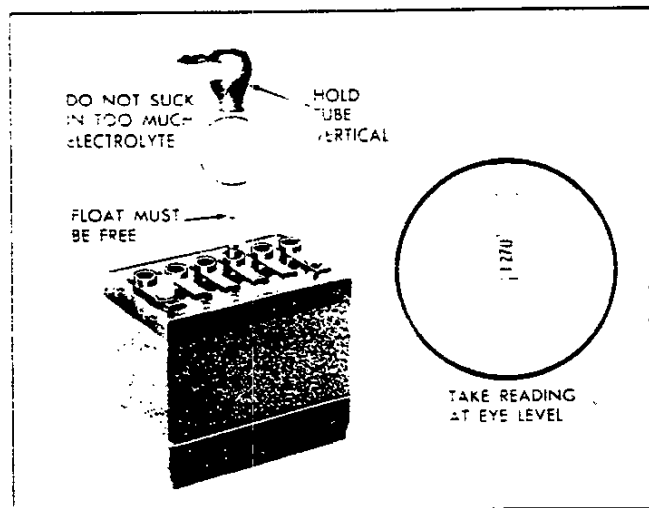

Fig. 4—Testing Specific Gravity of Battery
1. Measure the specific gravity of the electrolyte in each cell (fig. 4). If it is below 1.230 (corrected to 80°F.) recharge with a slow rate charger, or if desired, further check battery.